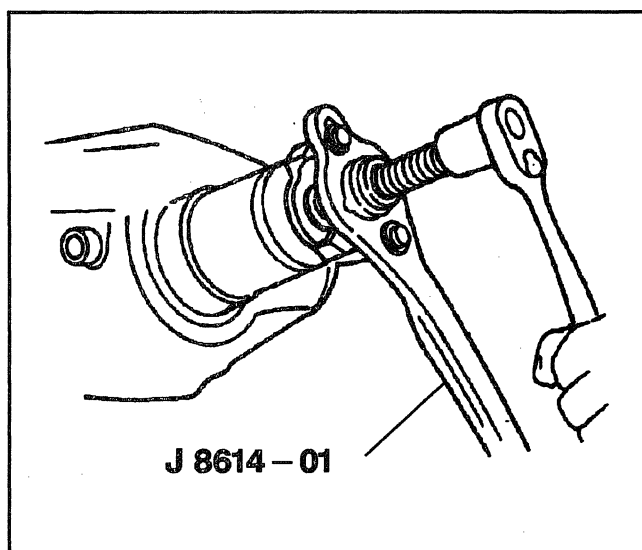

Figure 11—Removing the Pinion Flange
18. Pinion flange (10) using J 8614-01 (Figure 11).
19. Pinion (2) from the housing using a soft-faced hammer to tap the pinion.